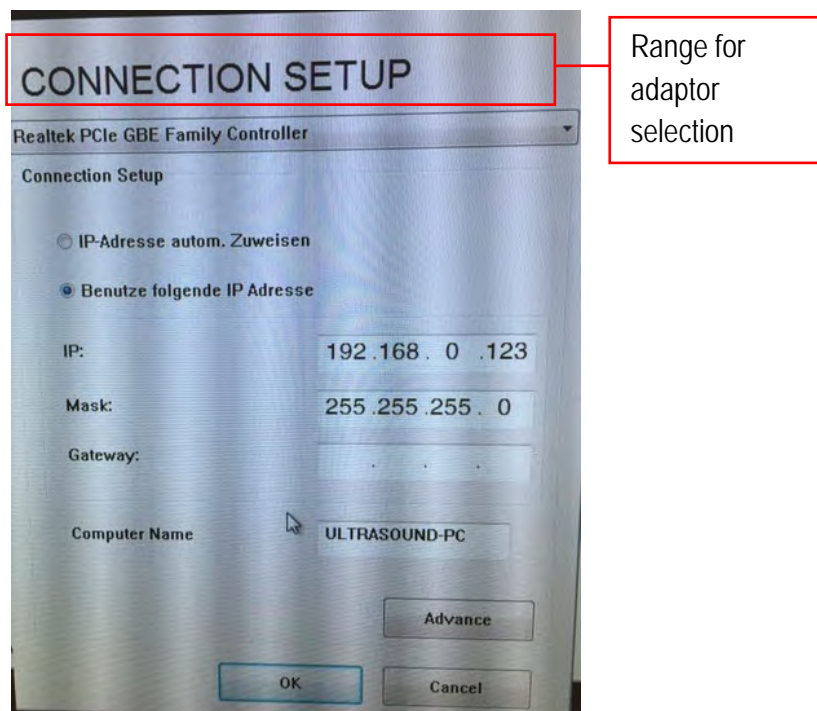

Figure 222: Connection Setup screen
2. Select **Connection Setup** to open the **CONNECTION SETUP** screen, as shown in Figure 222.